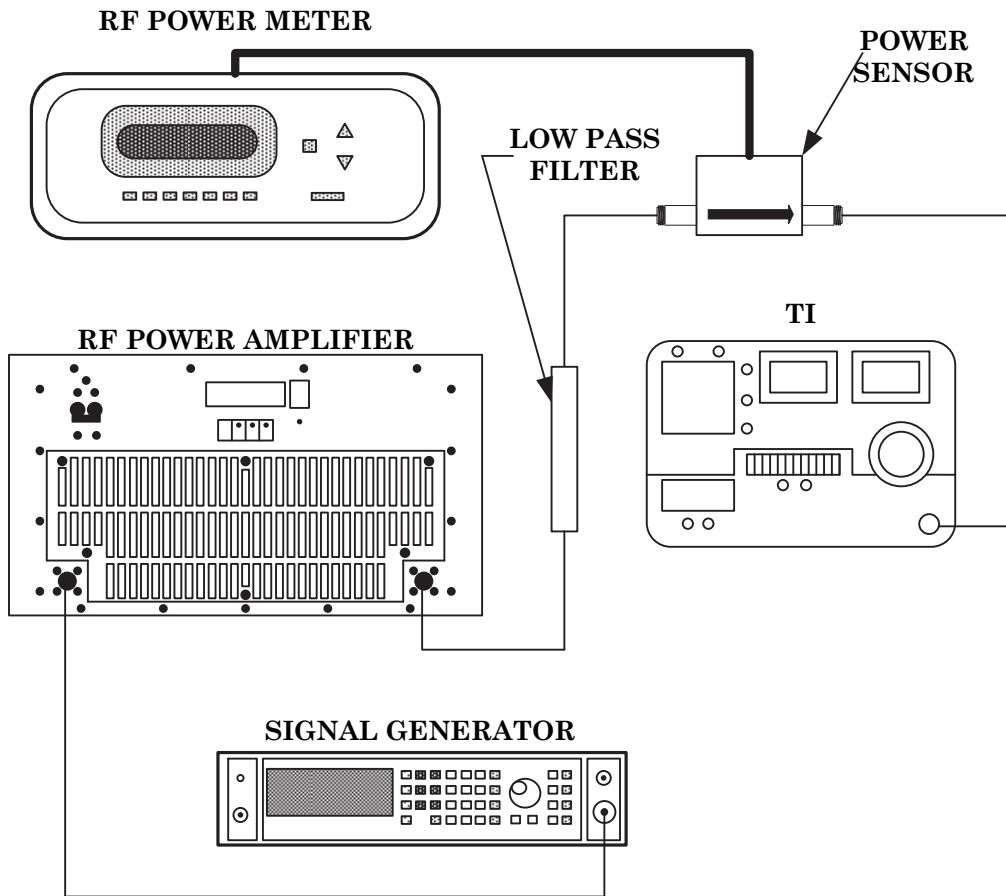

Figure 7. Power Meter - Equipment Setup.
(2) Connect equipment as shown in figure 7.
(3) Energize all equipment and allow at least 15 minutes for warm-up.
(4) Adjust signal generator to 30 MHz.
(5) Adjust signal generator amplitude control and RF gain control on the RF power amplifier for full-scale indication on **DEVIATION (kHz) WATTS** meter. If RF power meter does not indicate $4\text{ W} \pm 10$ percent perform **b** (1) and (2) below.
(6) Adjust output power to **0** and set **DEV/PWR** switch to **WATTS X10**.